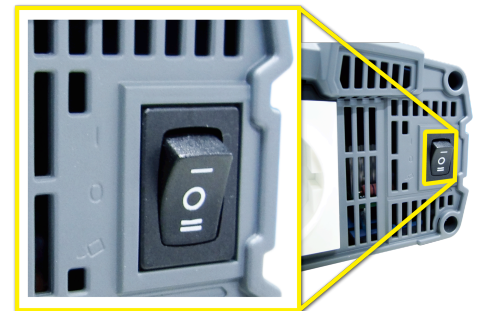

Fig.3 ASI series remote position
⑦ Phone Jack Connector :
1. Before connection, please make sure to switch the inverter to REMO position. (For SP series) (Fig. 3)